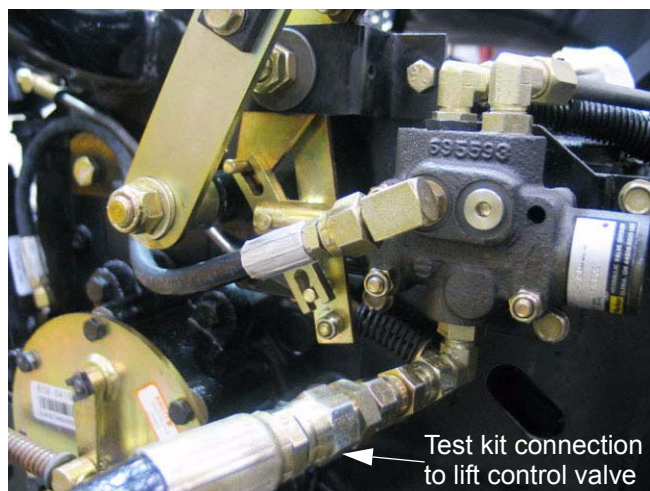

Figure 8.16
- 8.16. Install the test kit with the flexible line connected to the pressure gauge end of the kit, and the control valve connected to the flow meter end of the kit. See Figure 8.16.